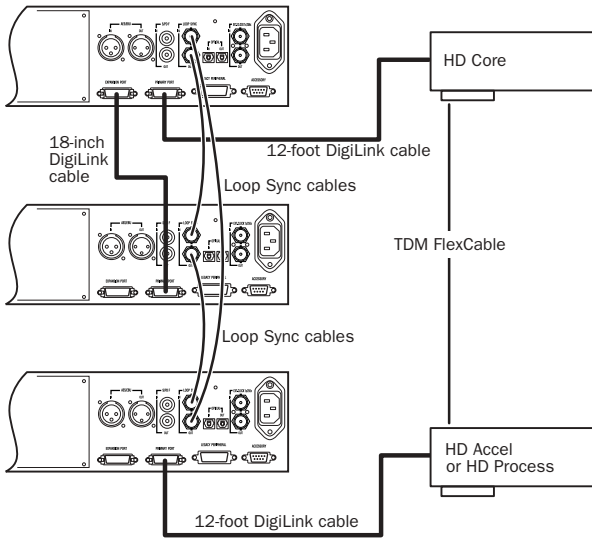

Figure 3. Three 96 I/Os, 48-channel
- 3** Connect additional HD-series audio interfaces to subsequent Pro Tools|HD audio interfaces or cards. See Figure 3 on page 11.